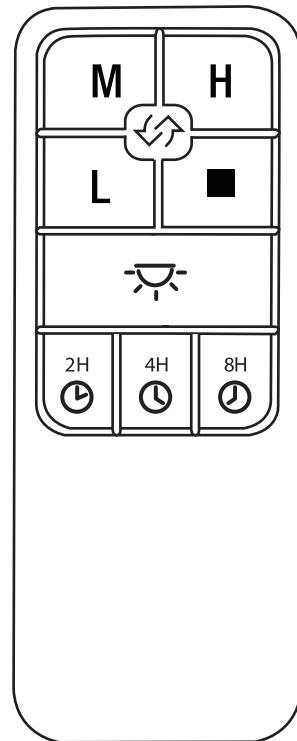

Fig. 2
A. H, M and L buttons: (Fig. 2)